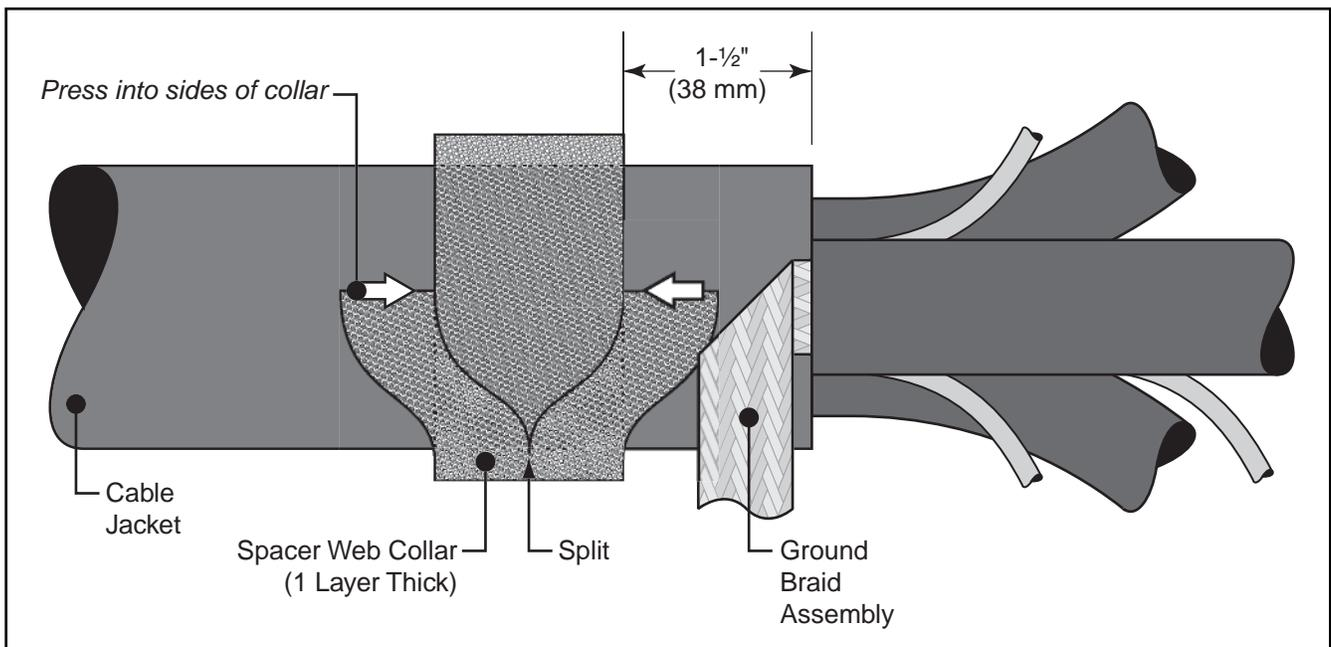

Figure 16
8.1 Remove the temporary wraps of Scotch® Super 33+™ Vinyl Electrical Tape that secured the 3-conductor ground braid in step 4.2. Temporarily position Ground Braid Assembly away from cable jacket. (Figure 16.)
8.2 Position spacer web collar over cable jacket, 1-1/2" (38 mm) from edge. Wrap spacer web for 1-1/4 wraps and cut-off excess. Split the 1/4 overlap and press into sides to hold in place, as shown. (Figure 16.)